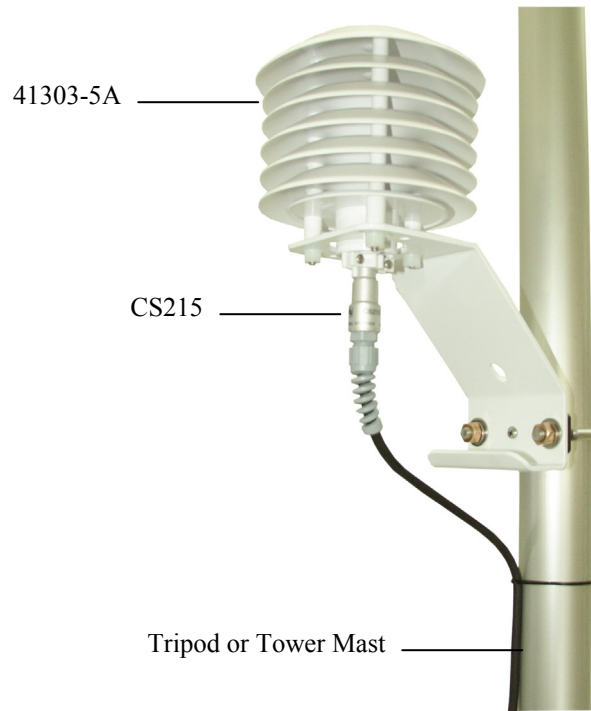

FIGURE 4-1. CS215 and 41303-5A Radiation Shield on a tripod mast
5. Attach the radiation shield to the tripod mast, crossarm, or tower leg using the supplied U-bolt. See Figures 4-1 and 4-2 for examples of shield mounting.
The CS215 must be housed inside a radiation shield when used in the field. Typically, the 41303-5 6-plate shield is used. This radiation shield has a U-bolt for attaching the shield to tripod mast / tower leg (see Figure 4-1 in Section 4, *Quickstart*), or CM200 series crossarm (see Figure 4-2 in Section 4, *Quickstart*). The radiation shield ships with the U-bolt configured for attaching the shield to a vertical pipe. Move the U-bolt to the other set of holes to attach the shield it to a crossarm.